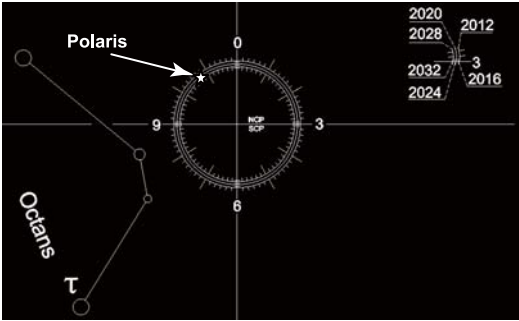

Fig 26
1. Locate both Polaris and Kochab in the sky near the North Celestial Pole. The relative position of Kochab to Polaris is an approximation of the orientation of Polaris in the polar scope. For example, if Kochab is at the 11 o'clock direction of Polaris, then Polaris should also be placed at the 11 o'clock position on the reticle circle (See Fig 26).